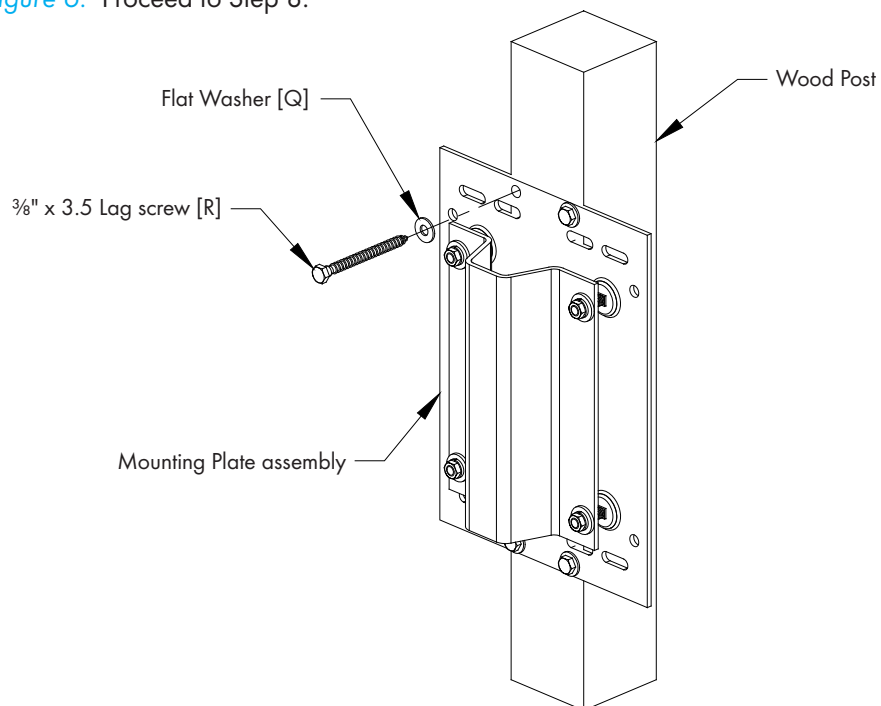

Figure 6
Attach Mounting Plate assembly to wood post using (4)  $\frac{3}{8}$ " x 3.5" Lag Screws [R] and Flat Washers [Q]. See Figure 6. Proceed to Step 8.